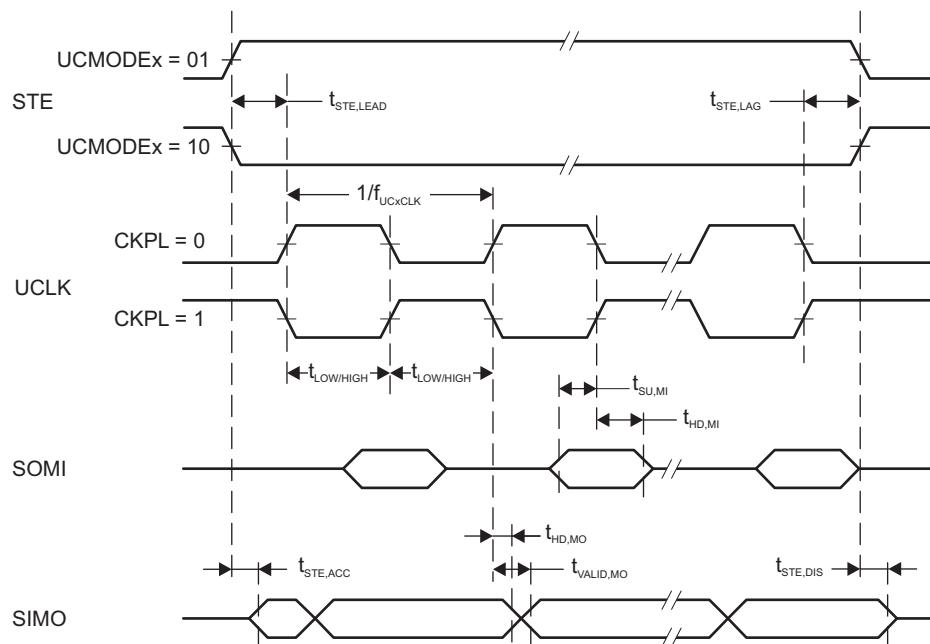
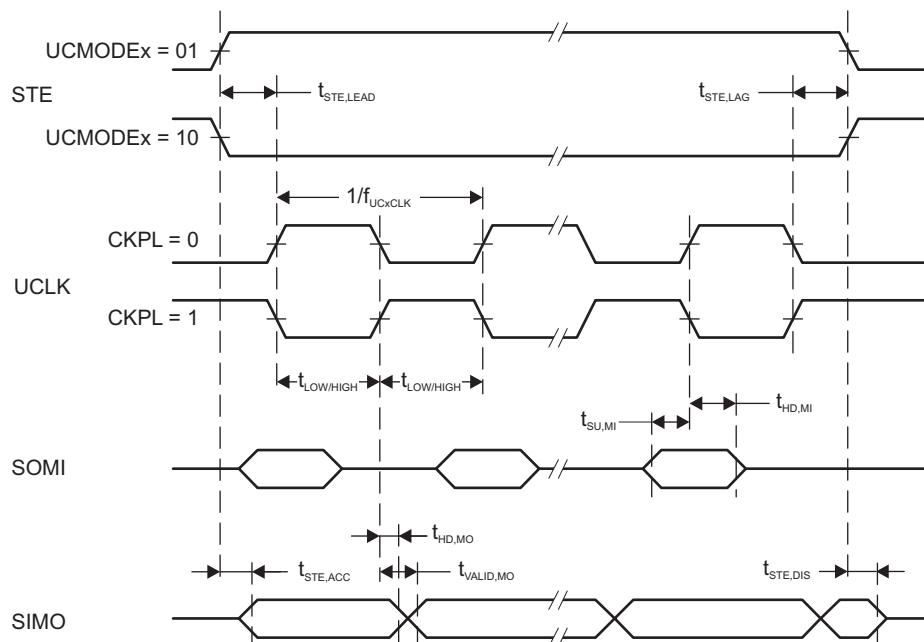

Figure 5-15. SPI Master Mode, CKPH = 0
Figure 5-16. SPI Master Mode, CKPH = 1
(2) Specifies the time to drive the next valid data to the SIMO output after the output changing UCLK clock edge. See the timing diagrams in Figure 5-15 and Figure 5-16.
(3) Specifies how long data on the SIMO output is valid after the output changing UCLK clock edge. Negative values indicate that the data on the SIMO output can become invalid before the output changing clock edge observed on UCLK. See the timing diagrams in Figure 5-15 and Figure 5-16.